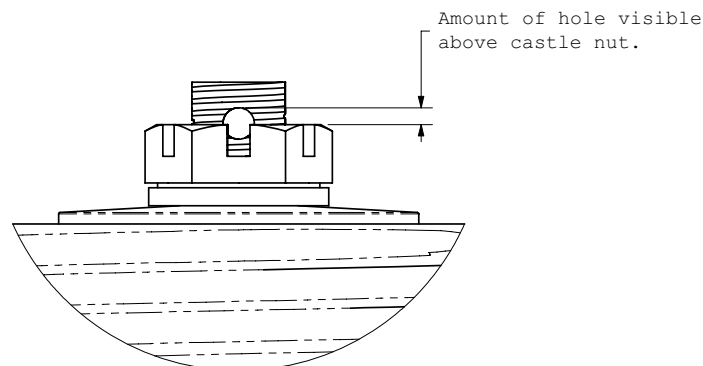

Figure 3-2. Castle Nut Detail Drawing
- 3) If more than half of the cotter pin diameter is above the nut castellation (see Figure 3-2), install the extra washer under the nut. If less than half of the cotter pin diameter is above the nut castellation, the extra washer is not needed, proceed with normal slip-clutch adjustment.